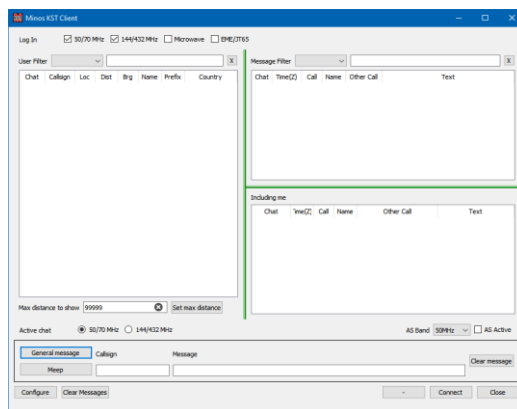
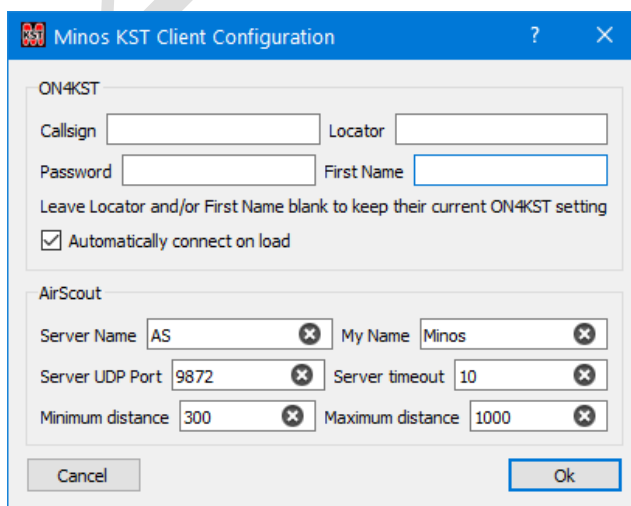

Figure 160 – KST Startup
Figure 161 – KST Client configuration
“**Configure**” – invokes the Configuration panel (Figure 161) which then requires:
- **Configure** – invokes the Configuration panel (Figure 161) as described above.
If the “**AS Active**” box is ticked (just above the ‘Clear Message’ button on the bottom right of Figure 160) then AirScout integration is started, subject to the requisite configuration information having been supplied (see Figure 161):